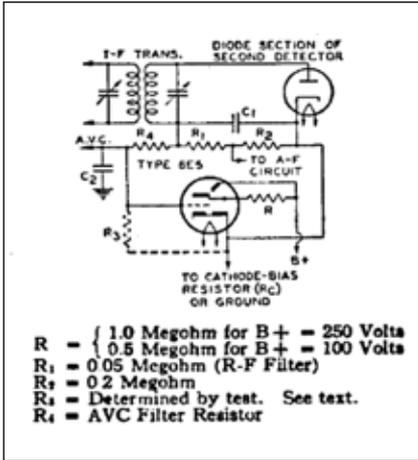

Figure 4.
**Figure 4** shows a typical tuning indicator circuit employing the 6E5. If the strongest carrier received produces sufficient AVC voltage to exceed the cutoff bias of -8 volts, the shadow area of the fluorescent target will overlap. To overcome this effect, Resistor R3 should be connected as shown, between the